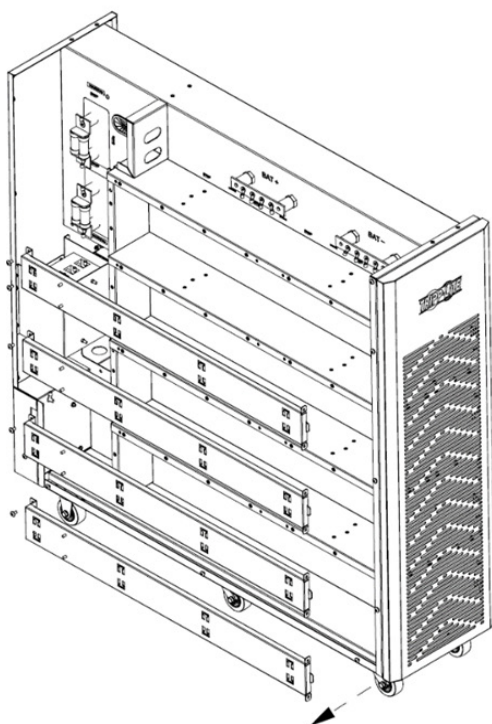

Figure 5-5A
4. Remove the right side and left side bracket bars (Figure 5-5A and 5-5B).